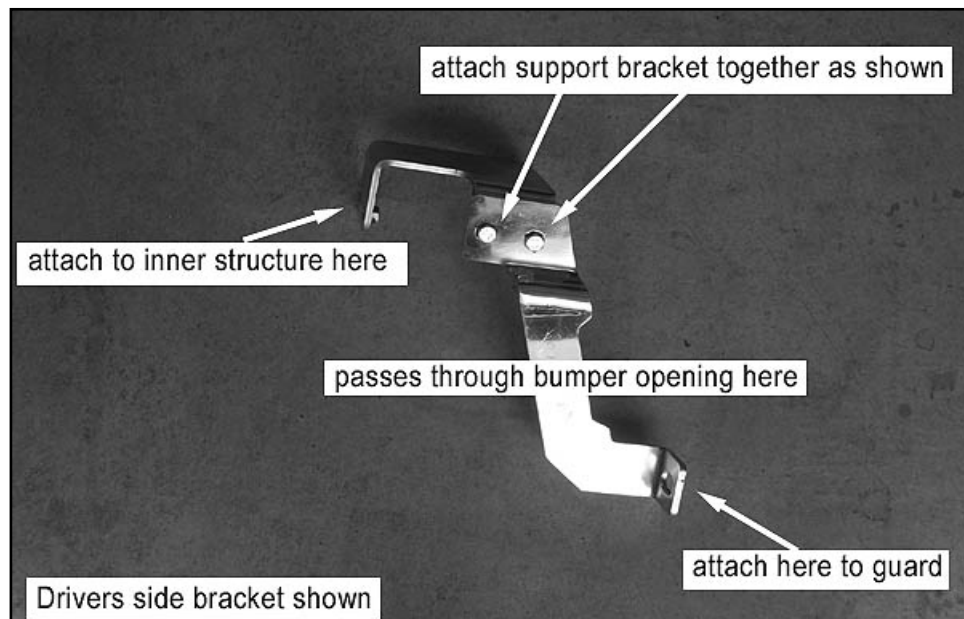
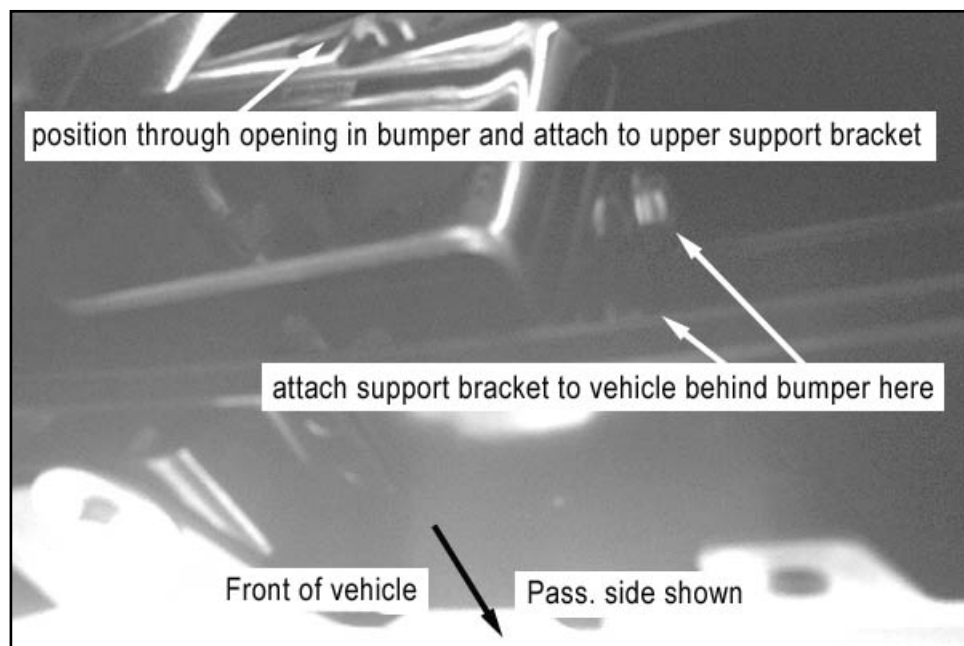

Fig. 3
Fig. 4
3. Attach and secure Upper support Bracket to vehicle as shown in Fig. 3-5 Take a minute to review fig.3 and familiarize yourself with its mounting locations. Refer to Fig.4 for mounting to chassis.